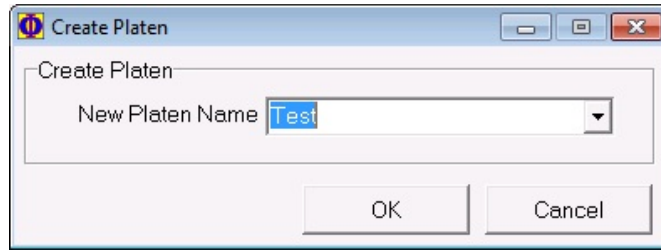

Figure 3-14. Window for Create Platen
7. Select  **Create Platen** button, and edit a **Platen Name** in **Create Platen** dialog. If require loading a platen which is set on the optional carousel in VersaPrep, select the Platen name. (Figure 3-14)